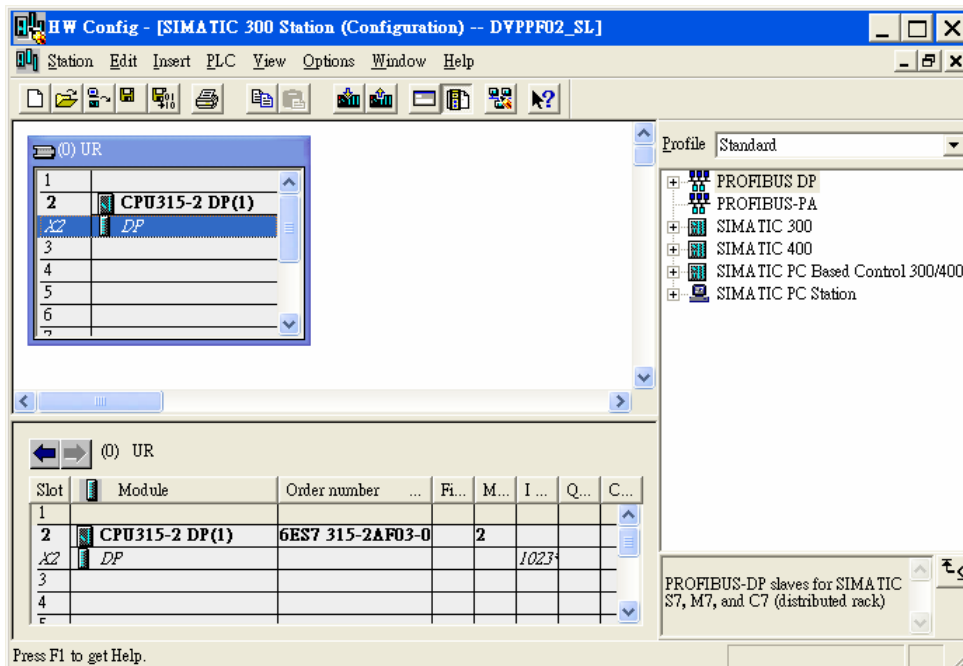

Figure 10-10
- In the HW Config window, double click "DP" in the (0)UR window, as Figure 10-10, and a new dialog box will appear.